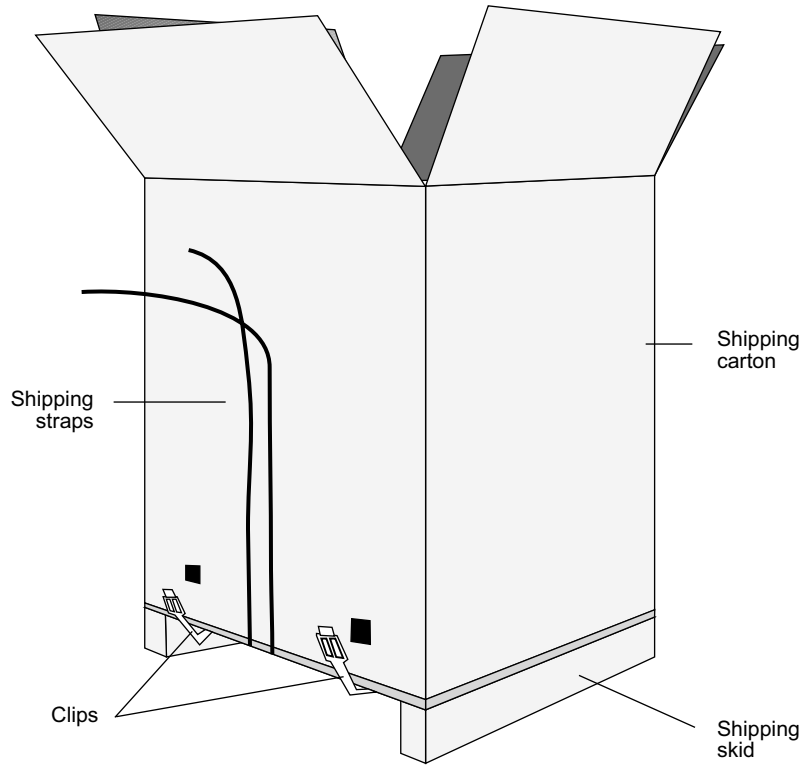

Figure 2-1 Packaged ERX-1400 series
The ERX-1400 series come boxed, bolted, and strapped to a skid. See Figure 2-1.
- 1 Cut the two straps that secure the carton to the skid. See Figure 2-1.
- 4 Unlock the four plastic clips that hold the box to the skid by squeezing them in their center and pulling out. See Figure 2-1.